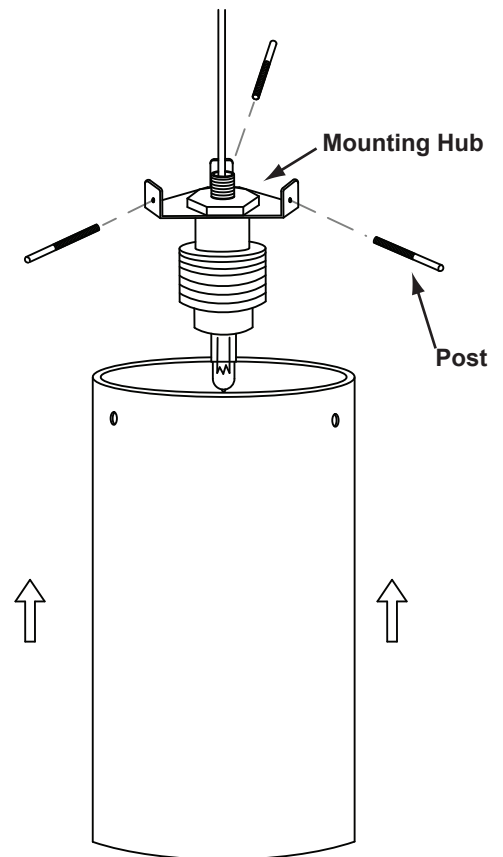

Figure 2
2. Following figure 2 below, the glass shade (shape may vary) will be positioned as shown. Align glass shade so that the Posts easily fit through the side holes in the glass shade and align with the holes in the Mounting Hub and then thread the Posts into the Mounting Hub holes.